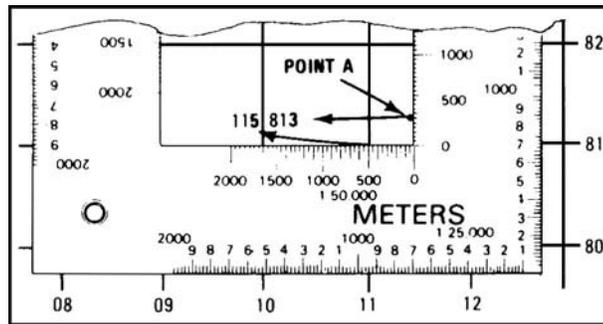

Figure 071-329-1002-7. Aligning the plotting scale
- g.** To determine the correct two-letter 100,000-meter-square identifier, look at the grid reference box in the margin of the map (figure 071-329-1002-8).